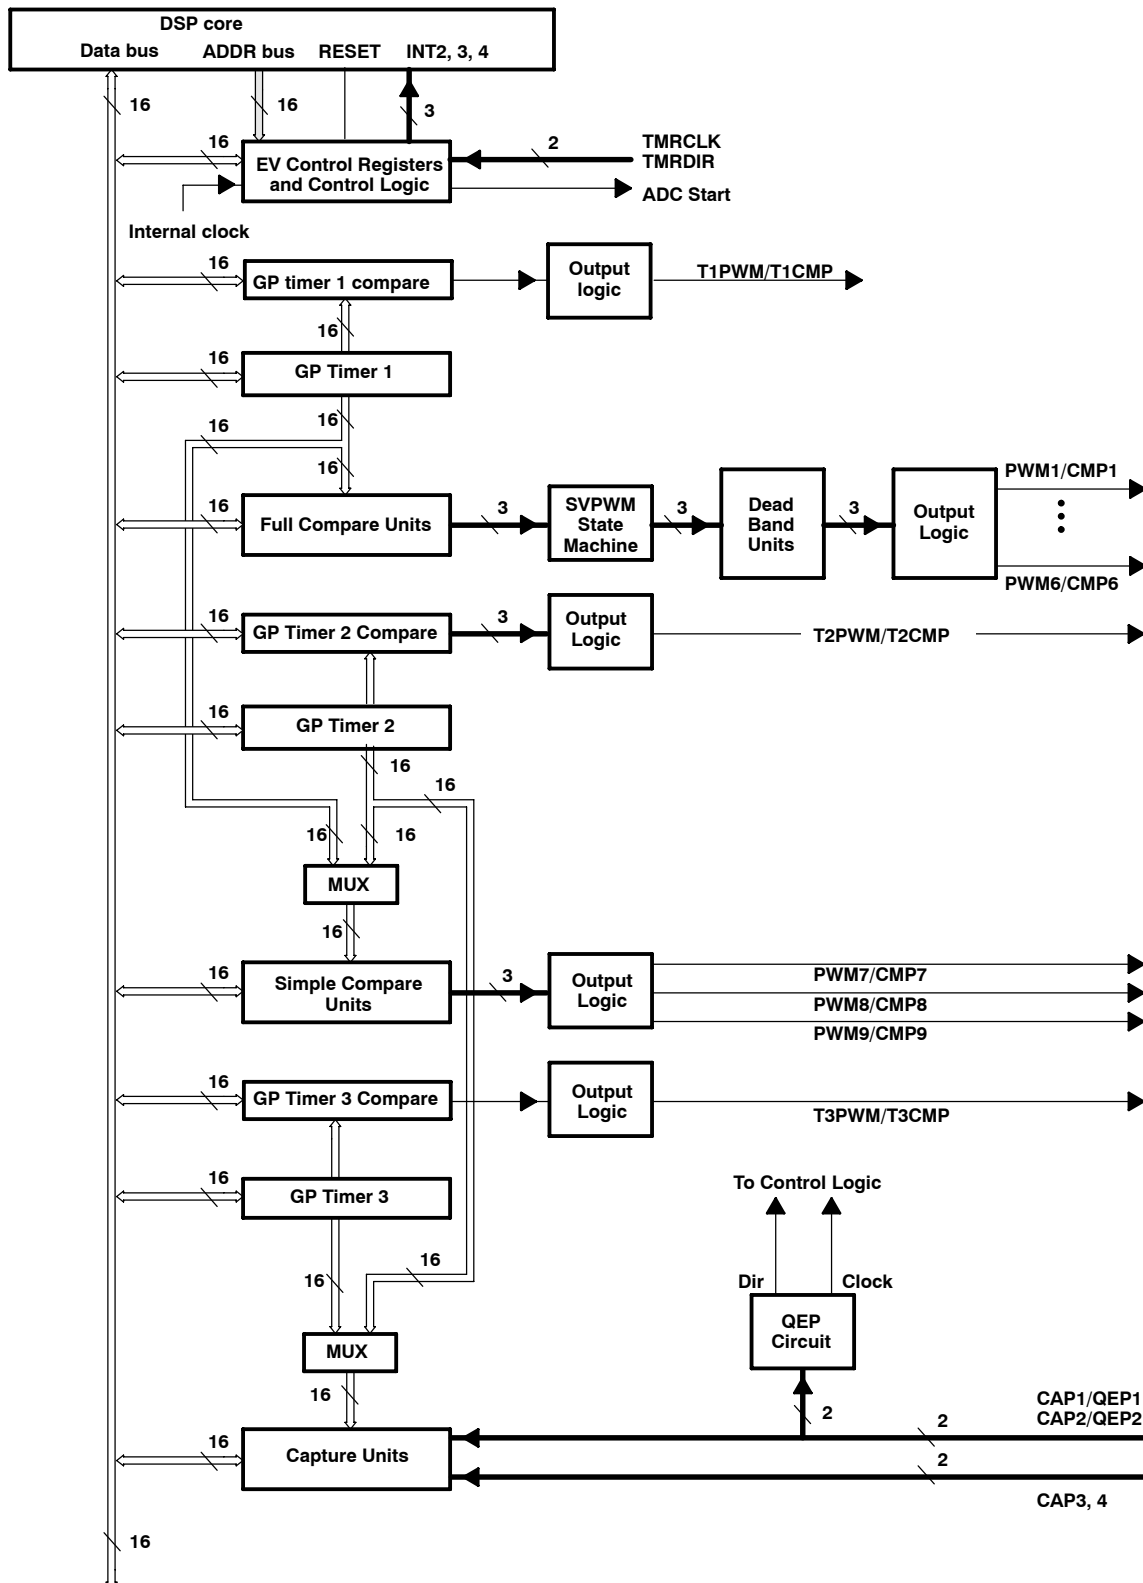

Figure 11. Event-Manager Block Diagram
The event-manager module includes general-purpose (GP) timers, full compare units, capture units, and quadrature-encoder pulse (QEP) circuits. Figure 11 shows the functions of the event manager.